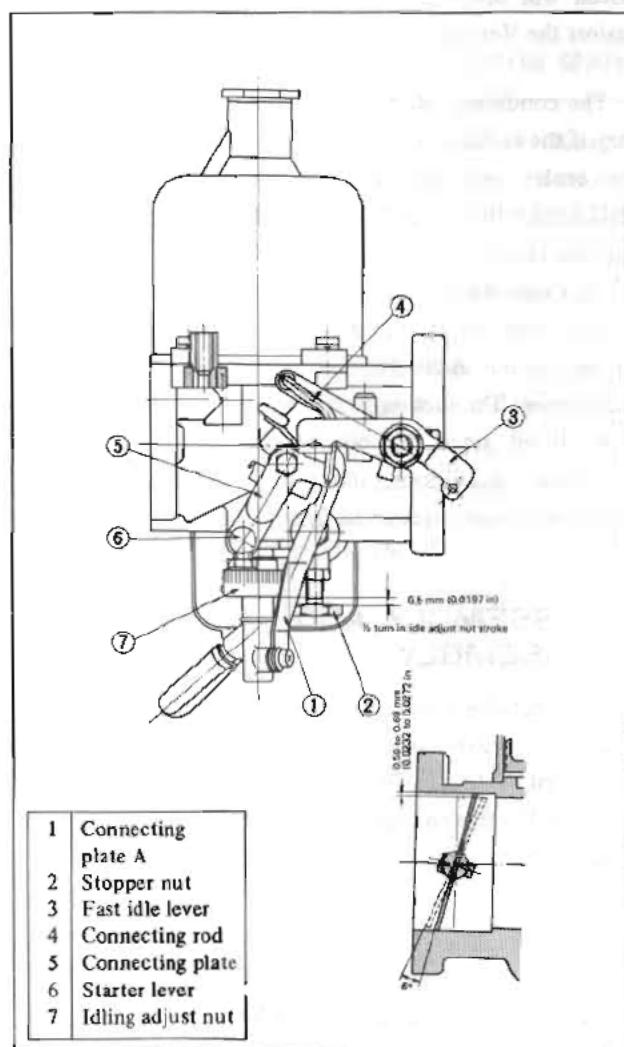

Fig. EF-45 Adjustment of starting interlock opening
For the adjustment of starting interlock opening, bend the connecting rod as shown in Figure EF-45 with an appropriate tool such as radio pinchers to change its length.
7. Then apply a few drops of light oil to the suction piston rod, and reassemble. Under no circumstances should oil be applied to the inside the suction chamber or to in Figure EF-45 with an appropriate tool such as radio pinchers to change its length. improper or defective operation.